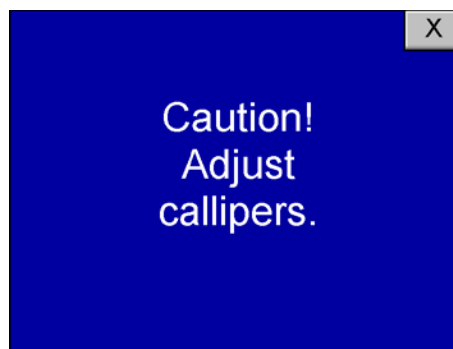

Fig. 26: Warning
Automatic feed is on by default. The automatic feed is turned off by pressing the "On" icon placed under the "Automatic feed" sign. The warning "Caution! Adjust callipers" is displayed (fig 26). This will change the machine from automatic to semi-automatic. This way of setting is to be used in case paper is not fed into the machine correctly. In this case it is also necessary to lift and lock the callipers (20) in the upper position (the friction feed is disabled) - Section 7.2.4.. When the machine is in this setting, feed paper manually sheet by sheet (similarly with the GPM 450 SA machine).